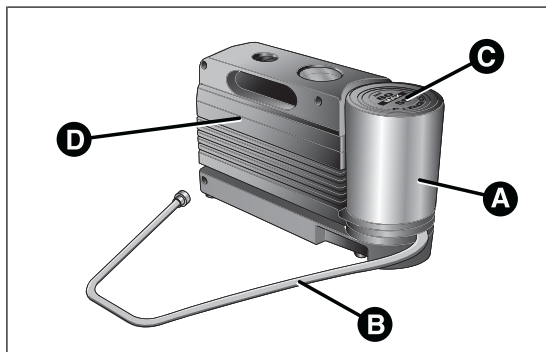

fig. 122
The kit fig. 122 contains:
- a bottle A fig. 122 containing sealer and fitted with: